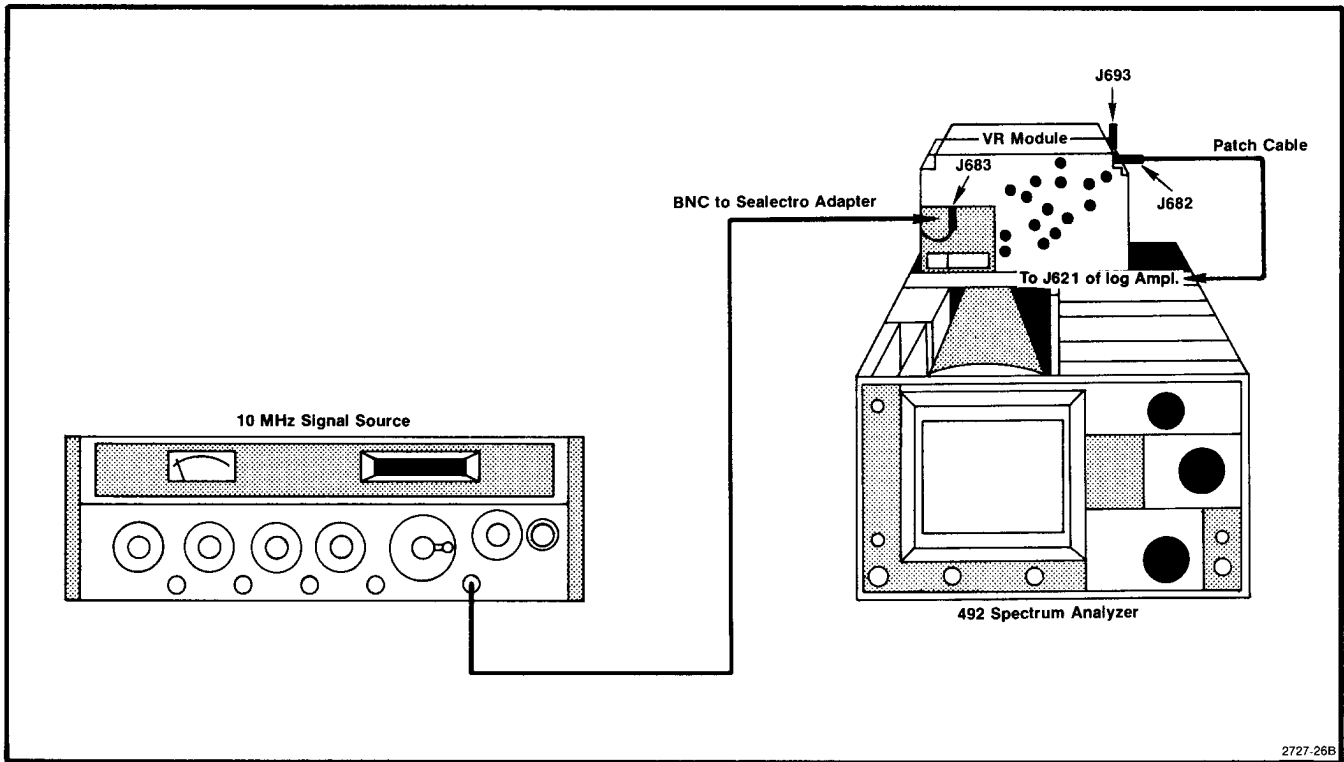
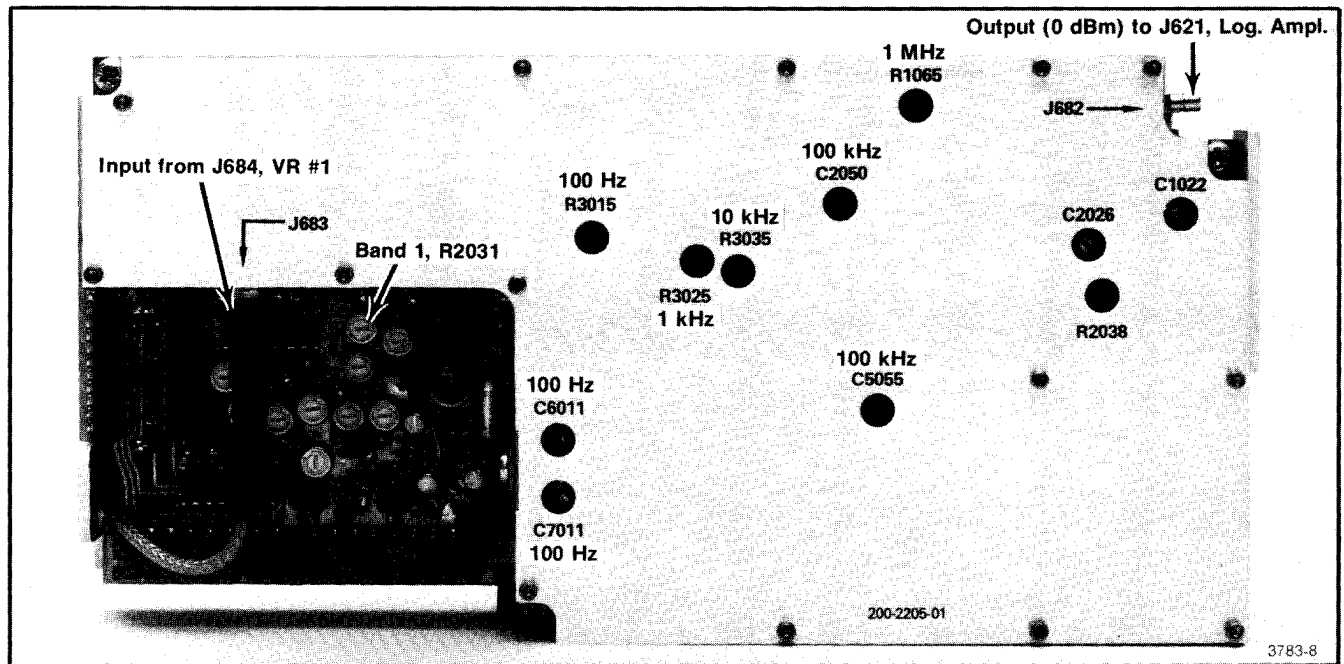
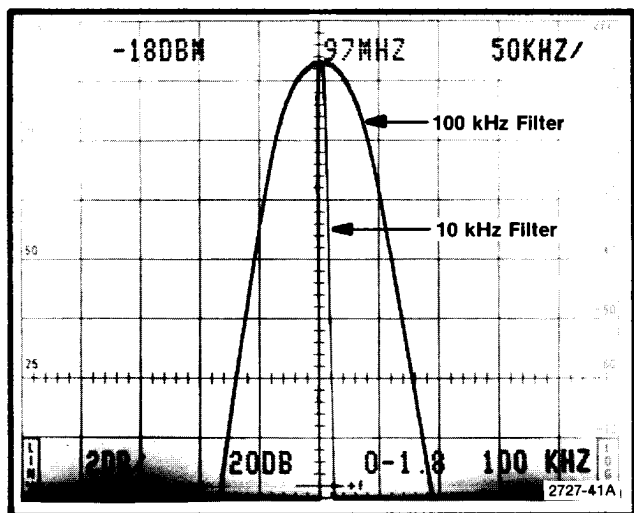

Fig. 3-41. Test equipment setup for calibrating the VR section.
Fig. 3-42. Calibration adjustments on the VR #2 module.
Fig. 3-43. Response of the 100 kHz filter.
a. Equipment setup is shown in Fig. 3-41.
d. Adjust C2050 and C5055 (Fig. 3-42) for the best 100 kHz filter shape and waveform centering (100 kHz, 3 dB down, and centered with respect to the 10 kHz reference). Refer to Fig. 3-43.
f. Adjust C2026 and C1022 (Fig. 3-42) for the best 1 MHz filter shape and waveform centering.
Locations of the adjustments are shown in Figs. 3-42 and 3-44.
The Post VR Gain, R2038 (Fig. 3-42), is normally preset by removing the VR#2 module cover and applying a -21 dBm, 10 MHz signal to pin JJ. Adjust for a full screen display with a REF LEVEL of -30 dBm. Replace the cover before proceeding with the other gain adjustments. Band gain adjustments, other than band 1, must be done after tracking has been calibrated and flatness checked. If the range of any band gain adjustments is insufficient, add a diode between the output from U3023 and the base of Q2049, as shown on the schematic diagram for Variable Resolution No. 2.
a. Test equipment is shown in Fig. 3-41. Install VR#2 module on an extender board as shown in Fig. 3-42. Set the front panel-controls as follows:
c. Adjust the front panel AMPL CAL to its fully ccw position and set the Band 1 Gain R2031 (Fig. 3-42) on VR#2 fully ccw.
f. If the signal is above 5 divisions, adjust the Post VR Gain R2038 (Fig. 3-42) for a 5 division signal amplitude (if the signal amplitude is less than 5 divisions proceed to part g).